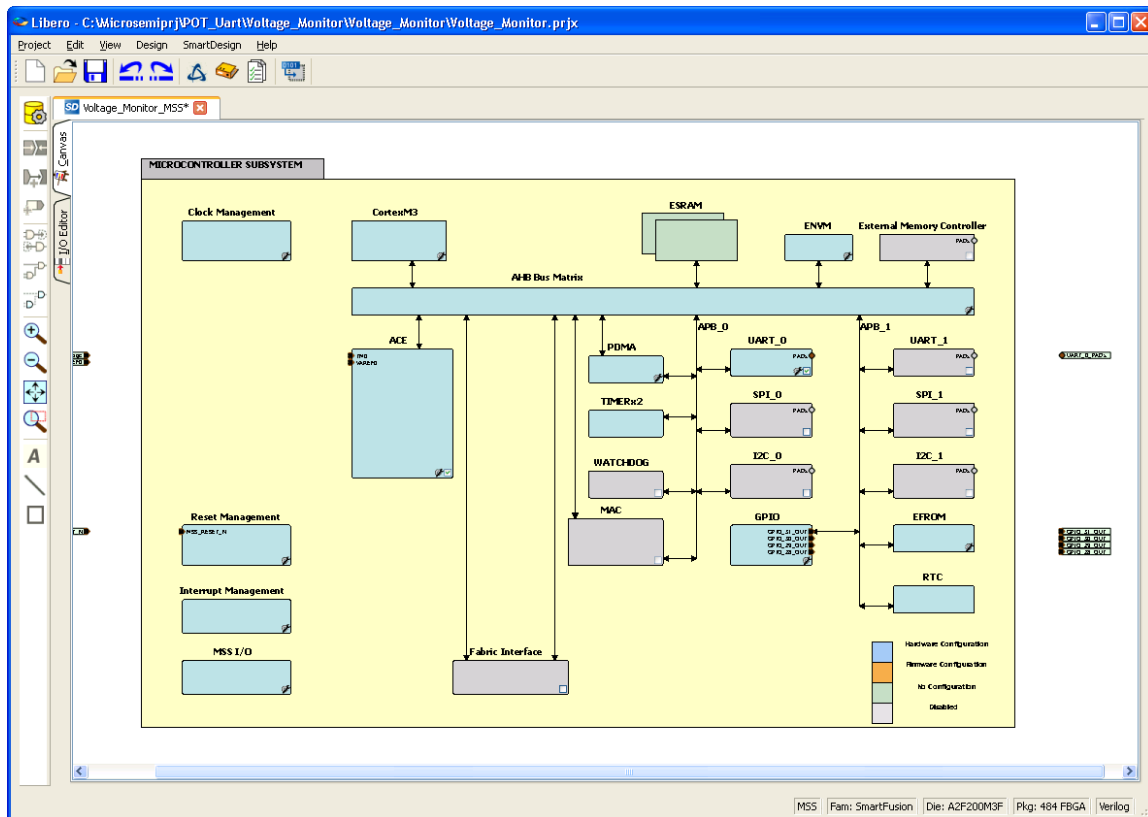

Figure 16 · The MSS Canvas
1. The MSS canvas is displayed, as shown in Figure 16 . .